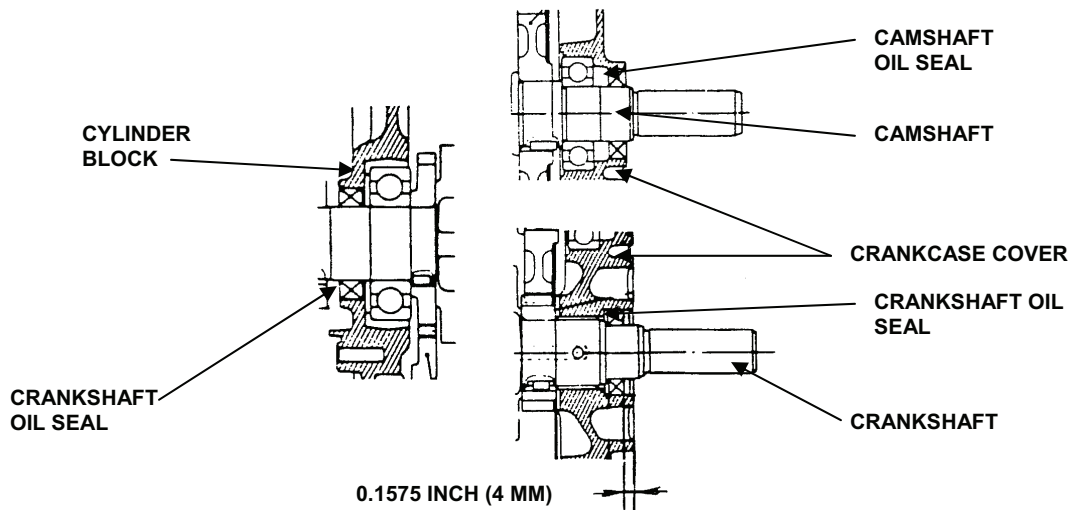

Figure 2. Crankcase Cover Oil Seals.
2. Insert crankshaft oil seal into crankcase cover until it is 4 mm (0.16 inch) deep from the end of the crankcase. See Figure 2.